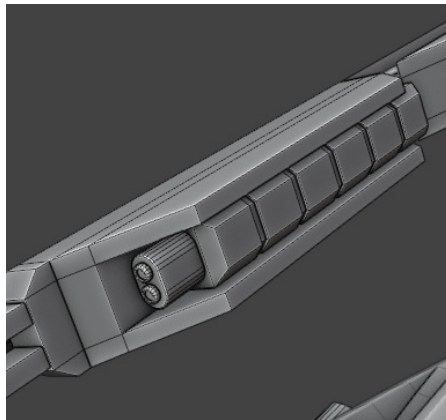

Figure 5.62 – Inner wing
*Figure 5.62* is the inner part of the wing, created by applying an **Array** modifier to a cube with beveled edges and a few round shapes at the back.